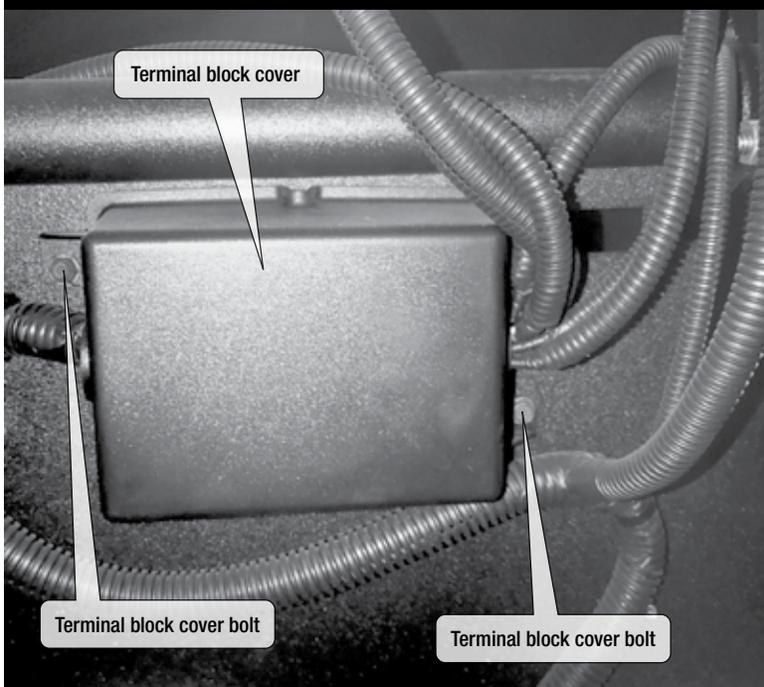

fig. 6
**8** Remove the terminal block cover under the hood of the vehicle using an 5/16" socket on the two terminal block cover bolts (see figure 6).